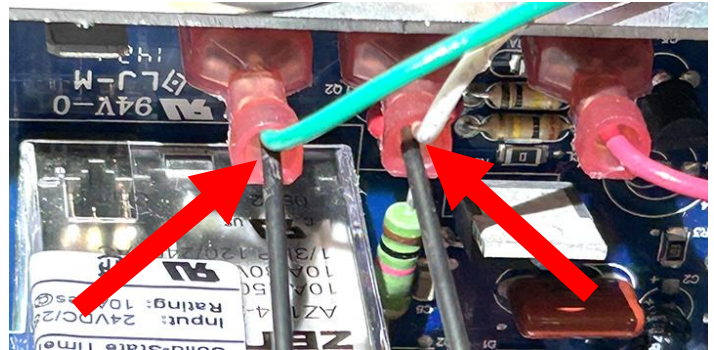

Figure 9
- ii. Test **across pins** 6 (green) & 7 (white) or 2 & 3, depending which pins have green and white attached (see Figures 9, 10 & 11). The voltage should be near 0VDC when activated. If the voltage is above 0.3VDC with power on and contacts closed, the time delay relay must be replaced.